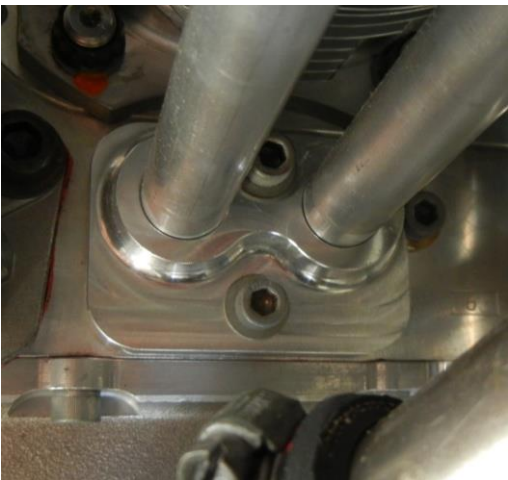
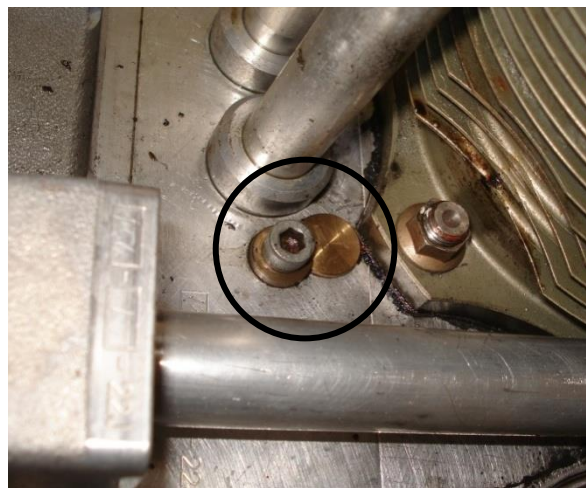

Figure 190 – Oil Return Manifold Fitted
Figure 195 – Rocker Lube (Left) & Crankcase Oil Port Blanking Plug
6. For roller follower models, the oil return manifolds can be fitted now. Fit new O rings and use a small amount of Loctite 515 to seal the manifold to the engine. Figure 190 shows the manifolds installed.
7. Fit the pushrod tubes (2) to the crankcase.
8. If the engine uses an external oil feed pipe this must be fitted between the cylinders. It should be fitted but the clamps not tightened until all the heads are fitted. For later specification engines which use the pushrod tubes to feed oil to the rocker gear this step is omitted. Note that if an engine has been converted from the external oil feed to the new hollow pushrod oil feed it will be necessary to fit blanking plugs to the old oil feed holes in the sides of the crankcase as shown in Figure 195. Solid lifter engines must use the external oil feed tube system.